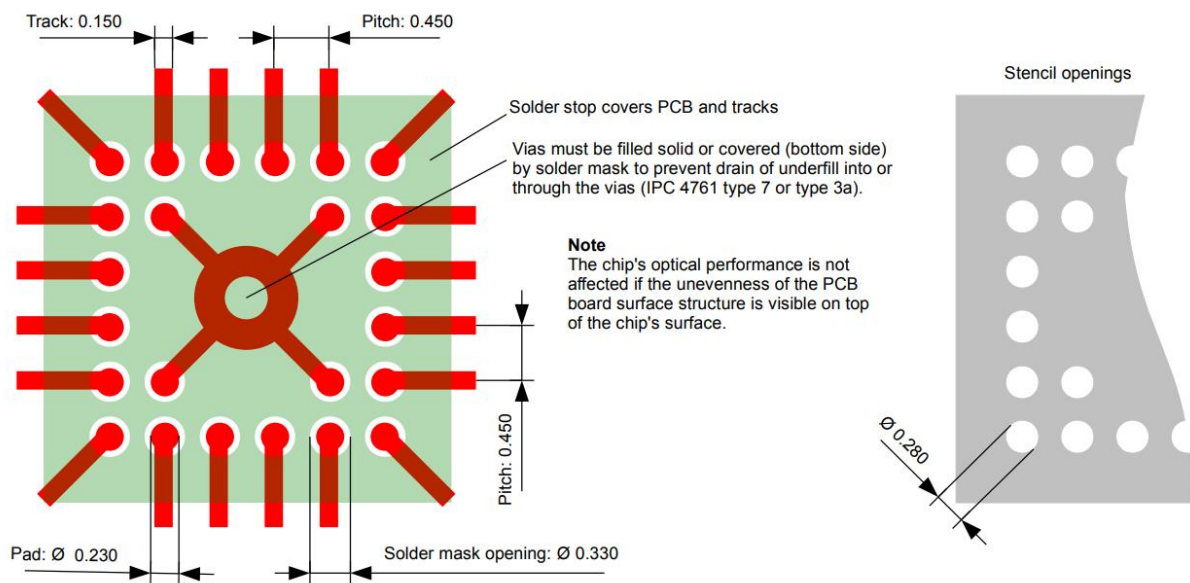
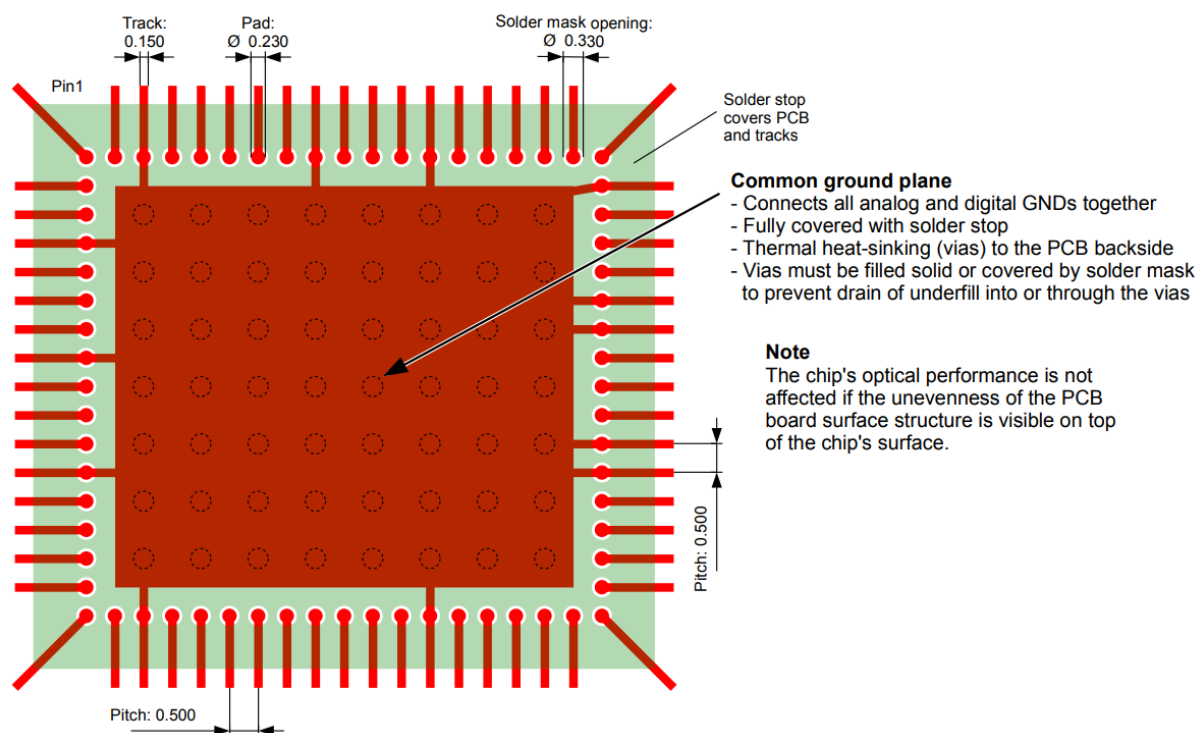

Figure 2: Example 1 of a recommended, balanced fine-line PCB design for XTOF-100-A with a "closed" center via of the GND pads. Dimensions in mm.
Figure 3: Example 2 of a recommended, balanced fine-line PCB design for XTOF-102-A with thermal heat-sink. Dimensions in mm.
The metal pad on the PCB is smaller than the solder mask opening (left picture in Figure 3). We recommend NSMD pads for CSP, because the copper etching process has a better pattern definition than with the solder masking process and therefore improves the reliability of the solder joints.
The fan-out of the tracks should be symmetrical and balanced across both the x and y directions to avoid part rotation and offset forces due to surface tension of the tin during soldering (refer to Figure 2 and Figure 1Figure 3).
- 5) No open vias in the underfill area. Refer to Figure 2 and Figure 3.